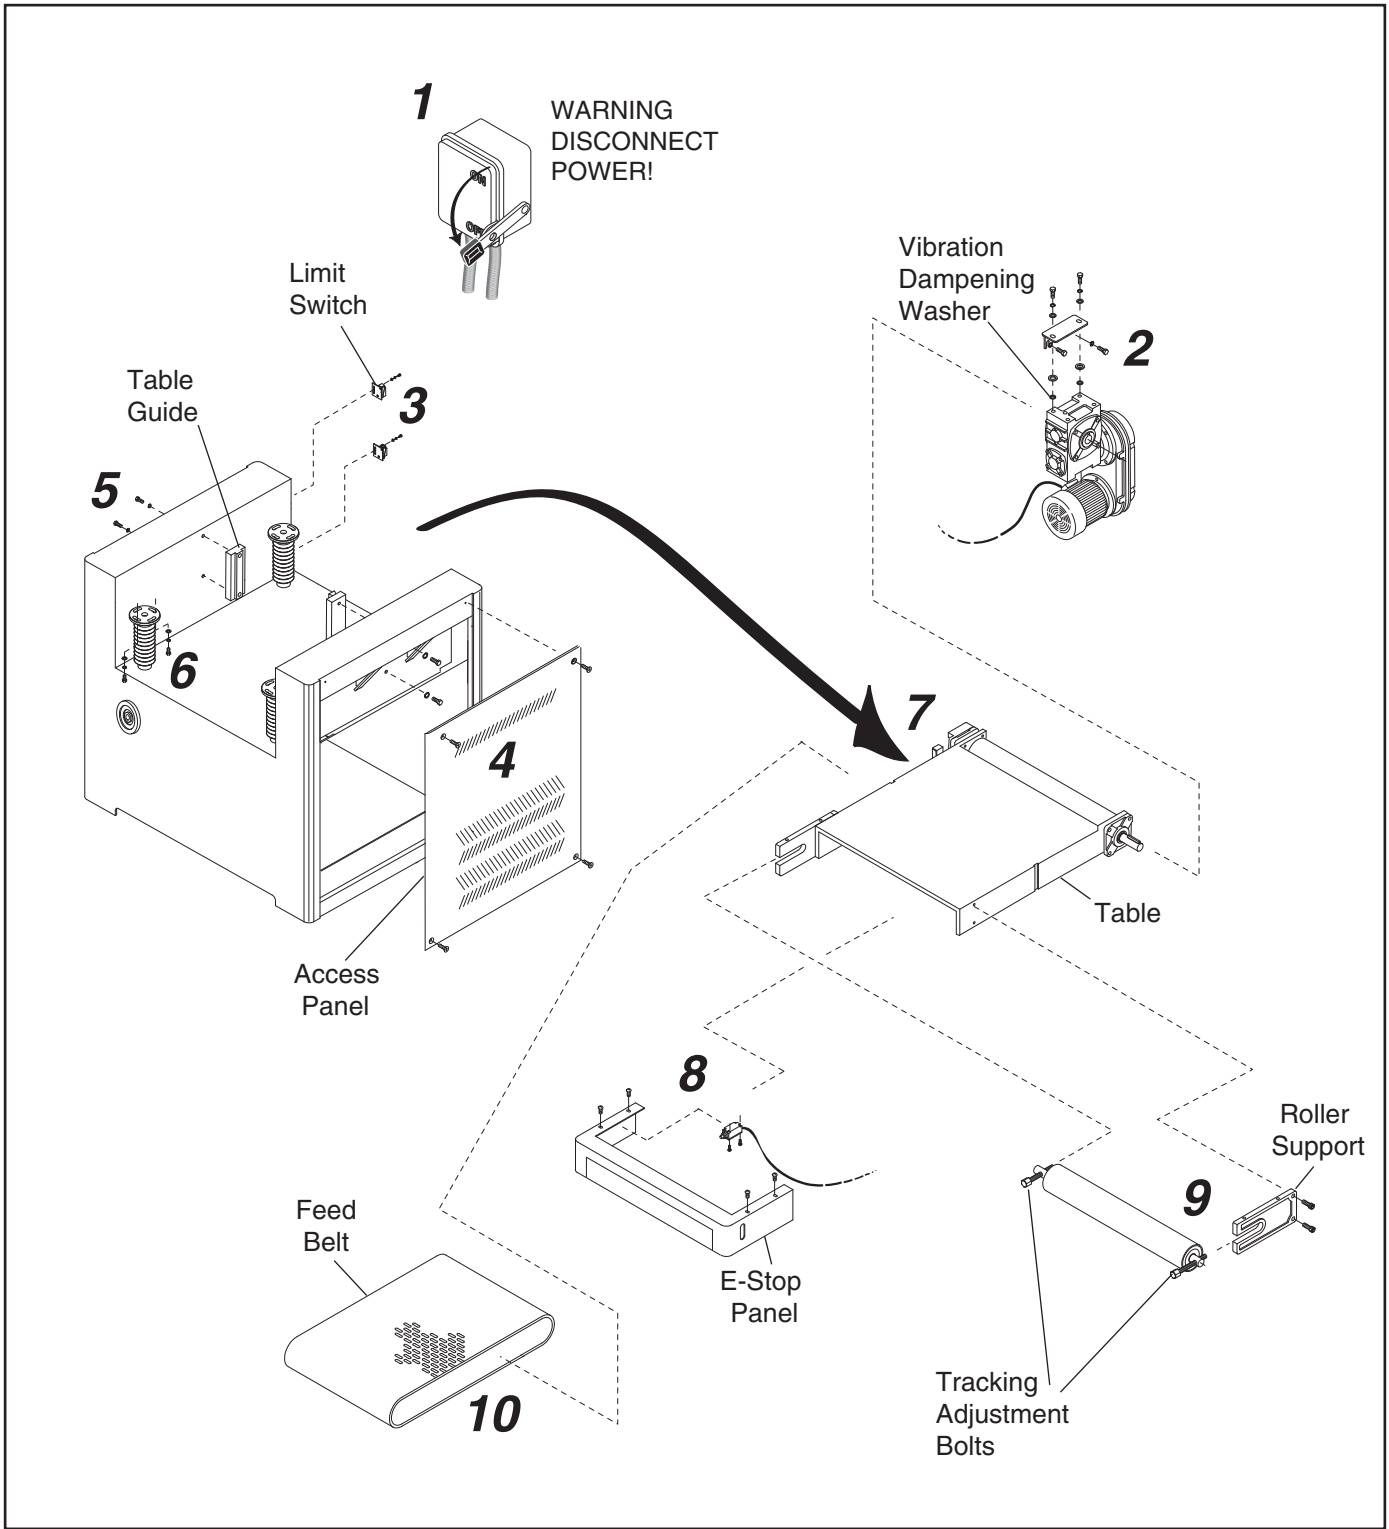

Figure 76. Feed belt removal sequence.
To remove the feed belt, use Figure 76 and match the number with the steps below:
2. Remove the gear box mounting bracket, and with an assistant's help, slide the motor and gear box from the roller shaft and lower it to the floor. **Note: Do not loosen the two vibration dampener washers shown in Figure 76.**